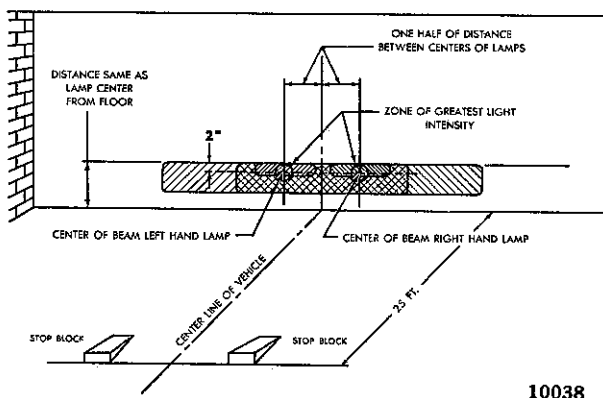

FIG. 182—HEADLIGHT AIMING CHART FOR 5000-SERIES LAMPS
- b. Turn the vertical aiming screw, located at the top of the lamp housing, counterclockwise until the lamp beam is considerably lower than the horizontal reference line on the screen. Then, turn the same screw clockwise until the center of high intensity coincides with the reference line. See Fig. 182.
- c. Turn the horizontal aiming screw, located on the side of the lamp housing, counterclockwise until the beam is off. Then, turn the same screw clockwise until the center of high intensity is equally divided by the vertical reference line. See Fig. 182.